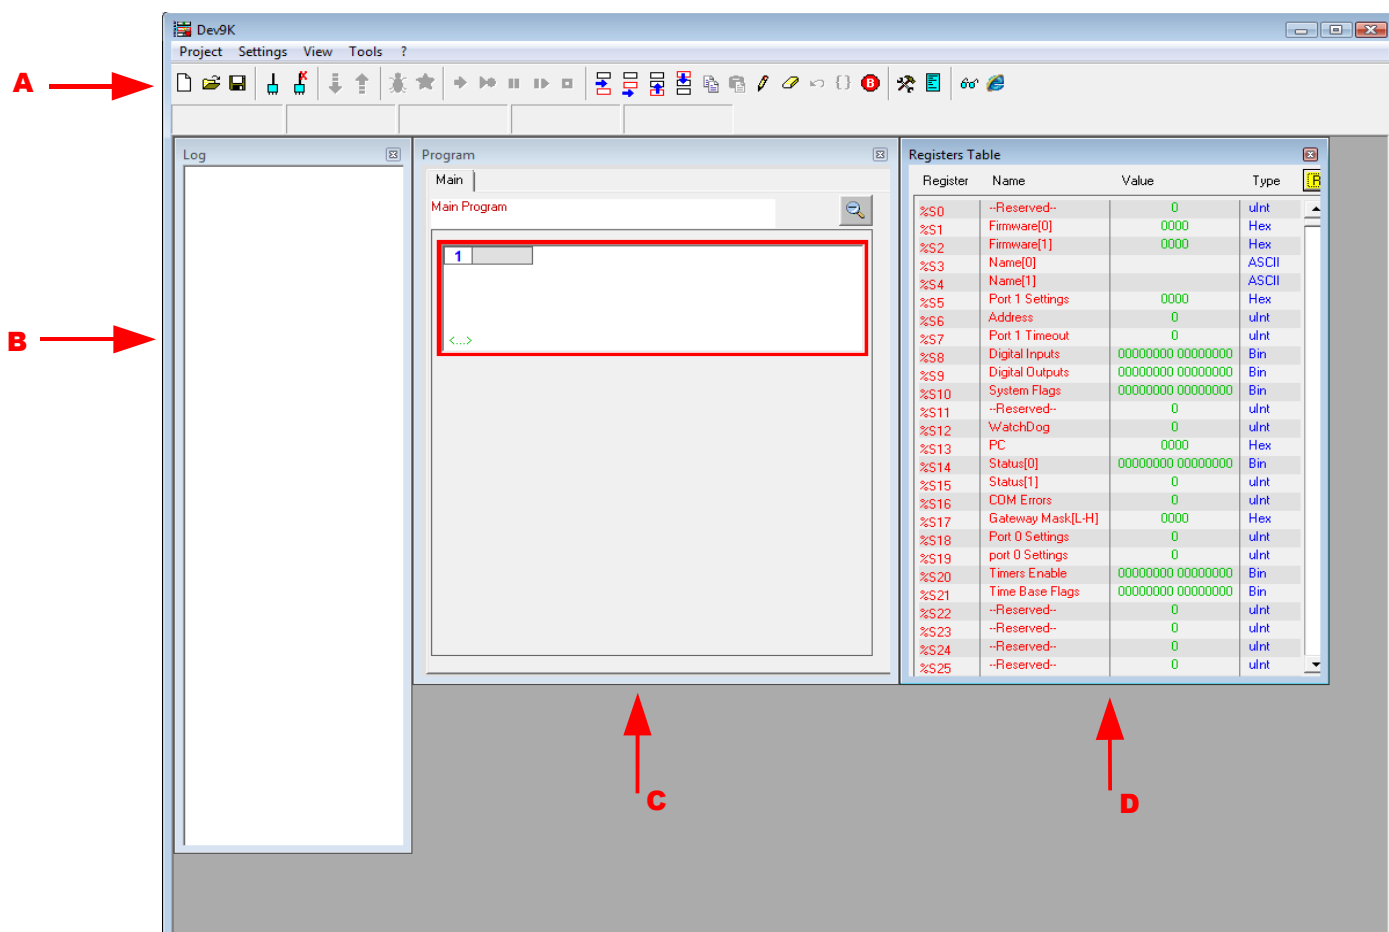

Fig. 1.1
- The Menu bar, the Tool bar and the Status bar (Fig.1.1-A)
- The Log window (Fig.1.1-B)
- The Main Program window (Fig.1.1-C)
- The Registers Table (Fig.1.1-D)
- “*Log*”: empty window that will contain the operation performed (Fig.1.1-B).
- “*Program*”: in this window it is possible to insert the Function Blocks to generate the Program. For a new Project this window contains a blank Function Block. (Fig.1.1-C).
- “*Registers Table*”: contains the list of Controller's Registers (Fig.1.1-D).